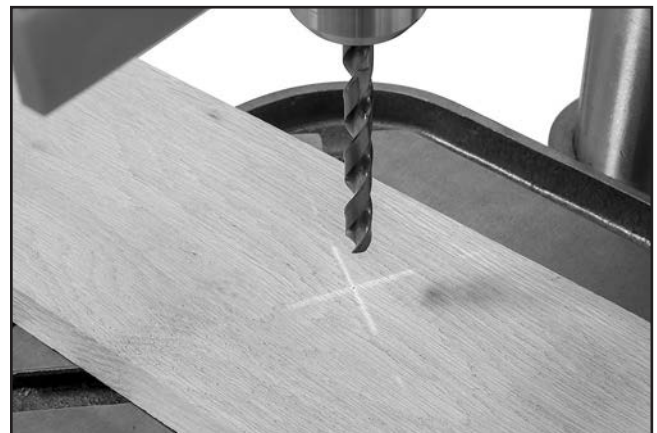

Figure 48. Example of laser crosshairs aligned with indentation on workpiece.
- If laser crosshairs align with indentation you made in **Step 5** (see **Figure 48**), no adjustment is necessary.
- If laser crosshairs *do not* align with indentation you made in **Step 5** (see **Figure 48**), proceed to **Step 7**.